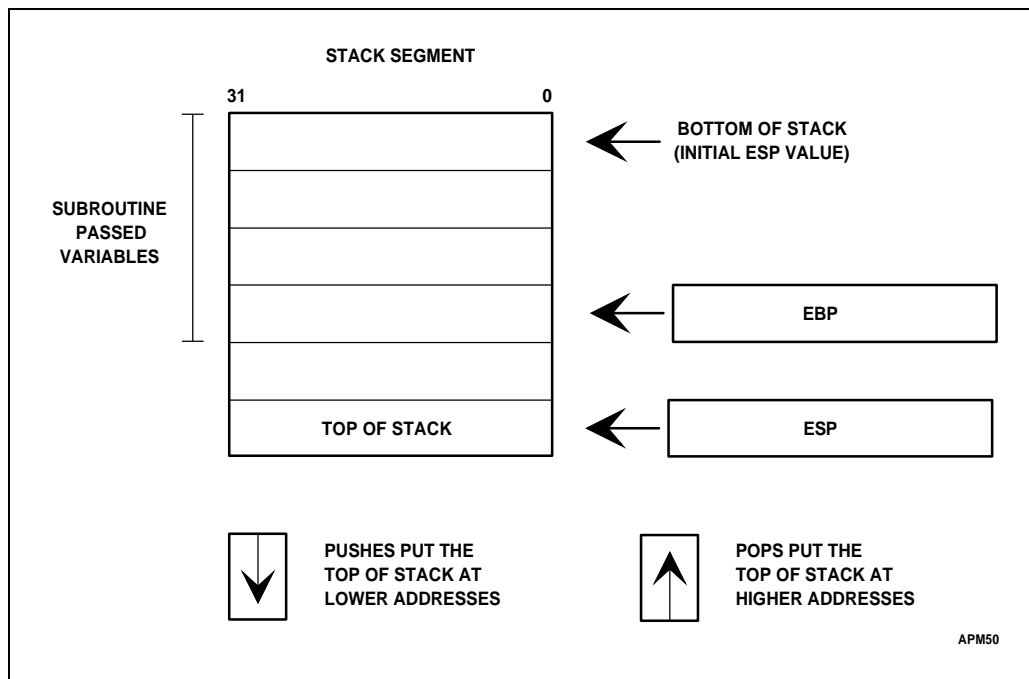

Figure 3-8. Stacks
1. **Stack Segment (SS) Register.** Stacks reside in memory. The number of stacks in a system is limited only by the maximum number of segments. A stack can be up to 4 gigabytes long, the maximum size of a segment. One stack is available at a time—the stack whose segment selector is held in the SS register. This is the current stack, often referred to simply as "the" stack. The SS register is used automatically by the processor for all stack operations.
2. **Stack Pointer (ESP) Register.** The ESP register holds an offset to the top-of-stack (TOS) in the current stack segment. It is used by PUSH and POP operations, subroutine calls and returns, exceptions, and interrupts. When an item is pushed onto the stack (see Figure 3-8), the processor decrements the ESP register, then writes the item at the new TOS. When an item is popped off the stack, the processor copies it from the TOS, then increments the ESP register. In other words, the stack grows *down* in memory toward lesser addresses.